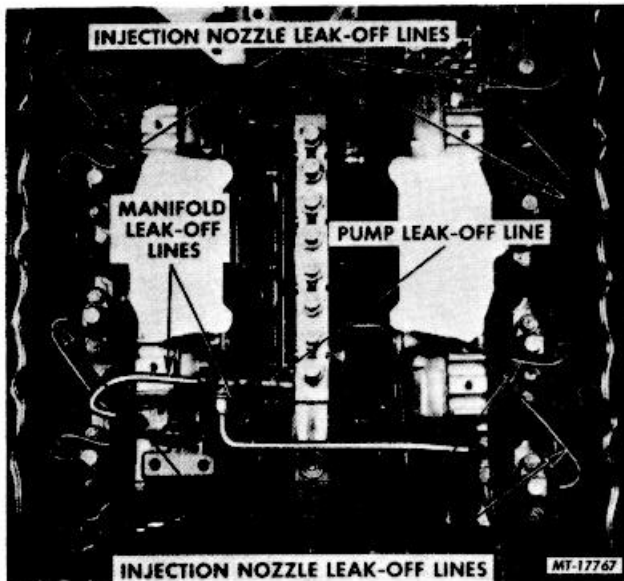

Fig. 33 Leak-Off Lines
20. Disconnect injection nozzle leak-off lines (Figure 33). Also remove leak-off line between manifolds and leak-off line from manifold to injection pump.